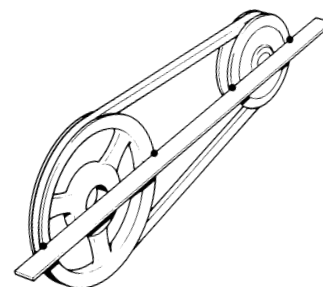

Fig. 33 V-belt pulley adjustment
- Check that after tension adjustment and tightening the motor mounting nuts, both pulleys are in a straight line to avoid excessive wear of the V-belt. Hold a straight edge against compressor and motor V-belt pulleys as shown in Fig. 33: edge must be parallel to the v-belt.